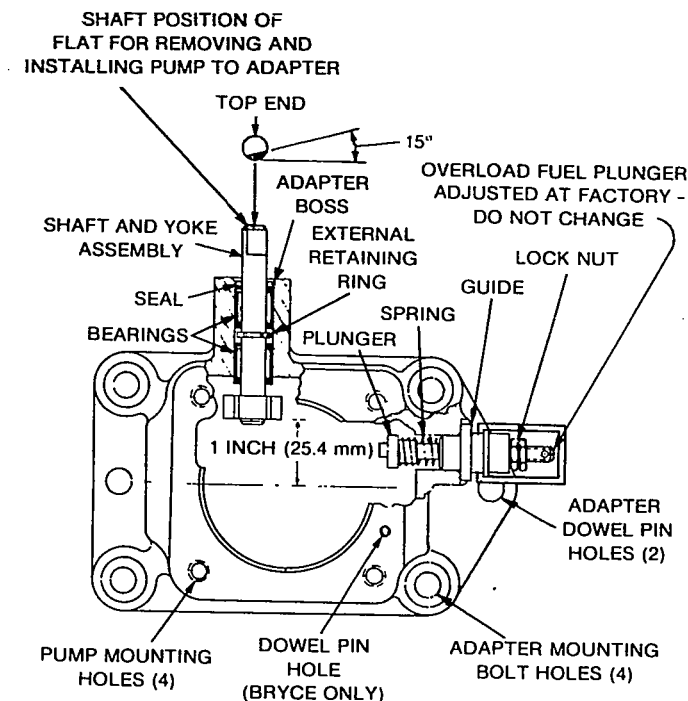

FIGURE 21e. INJECTION PUMP ADAPTER ASSEMBLY
6. Position fuel control shaft and yoke as shown in Figure 21e. Then, lift pump off of adapter assembly.